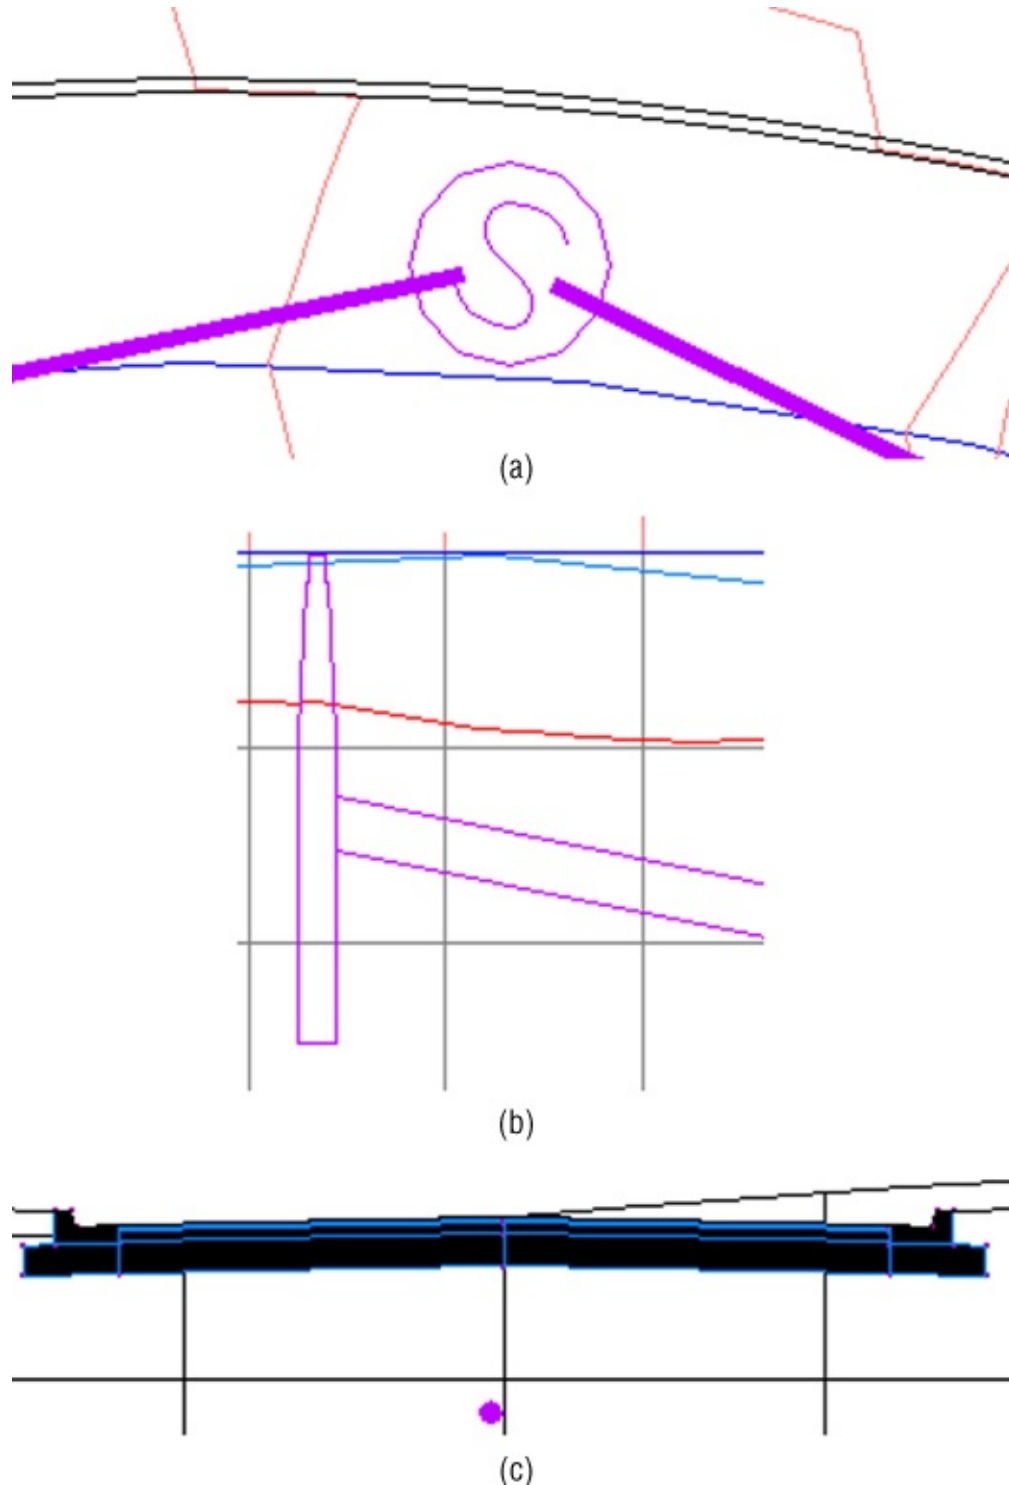

Figure 19.40 Proposed Sanitary CL pipe style shown in plan (a), profile (b), and section (c)
16. Examine the pipe in plan, profile, and cross section, as shown in Figure 19.40.